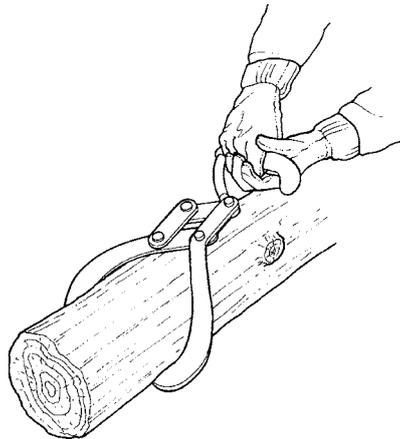

Figure 4 Log tongs
**Solution:** Log tongs can be used to help handle round timber (see Figure 4). As well as helping to grip the timber they reduce the need for bending. They speed up the job and repay their cost very quickly.